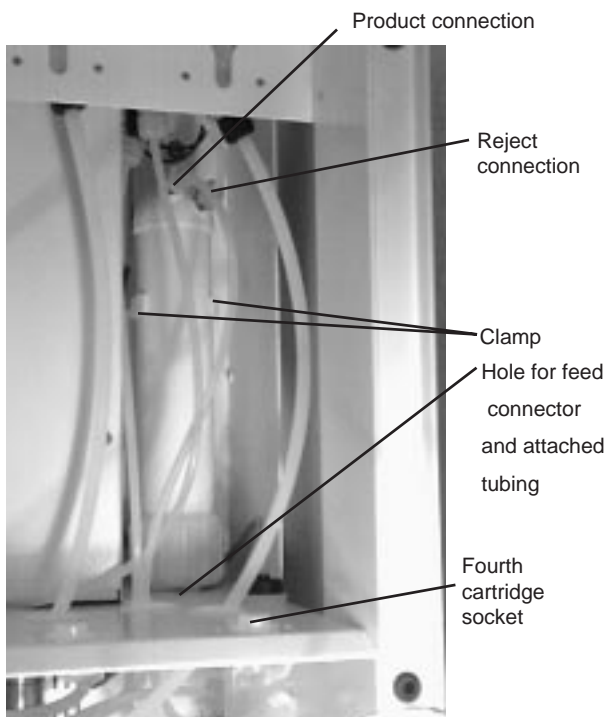

Figure 4 Ultrafilter Orientation and Installation
5. Locate the large hole in the right side of the bottom of the NANOpure cartridge shelf, near the back wall. Thread the ultrafilter feed connector and attached tubing through the hole. (See Figure 4).
9. Attach the appropriate tubing to the proper connection on the ultrafilter. The tubing adapter nut is labeled product and reject. The product and reject connections are located at the top of the ultrafilter; the product connection is the highest and on the left, the reject connection is on the right. (See Figure 4). Tighten the connectors by hand; do not use a wrench.